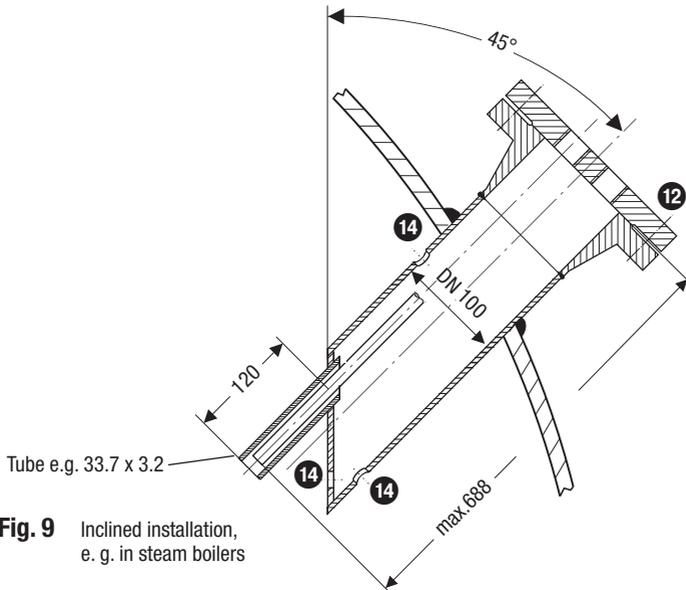

Fig. 9 Inclined installation,
- The angle of inclination of the electrode must not exceed 45°, with the length of the electrode being limited to 688 mm. **Fig. 9**